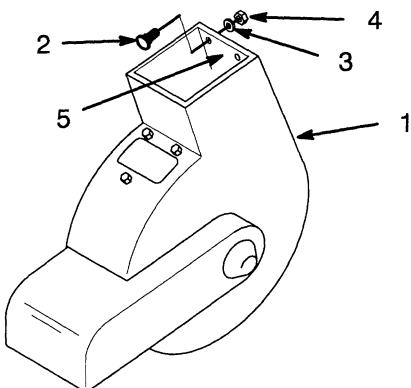

Figure 18
1. Remove adaptor from blower. Remove five bolts and pull wear strip from blower (Fig. 18).
2. Clean inside of blower thoroughly. Slide new wear strip inside blower and install three bottom bolts, washers and nuts (Fig. 18).
3. Push wear strip tight against blower and install (2) top bolts, washers and nuts (Fig. 18).